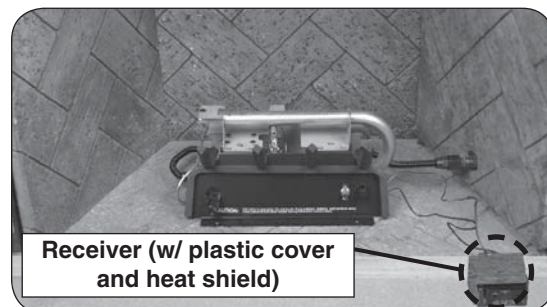

Fig. 15-4 Place remote receiver
4. **Place the remote receiver at the front right corner of the fireplace. Place as far from the burner system as possible.** See Fig. 15-4.
5. Place the plastic cover over the remote receiver with the open side facing forward to allow access to the receiver controls. Then place the decorative heat shield. See Fig. 15-4.